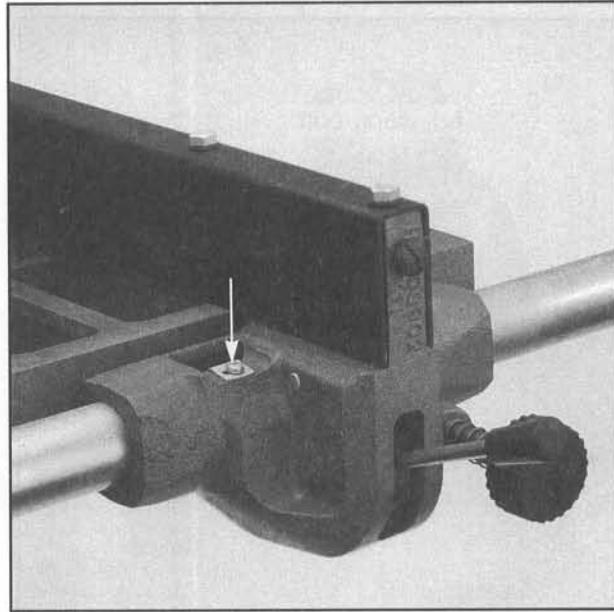

Figure 29.
7. Once the fence is adjusted, check the pointer and adjust if necessary. **Figure 29.**